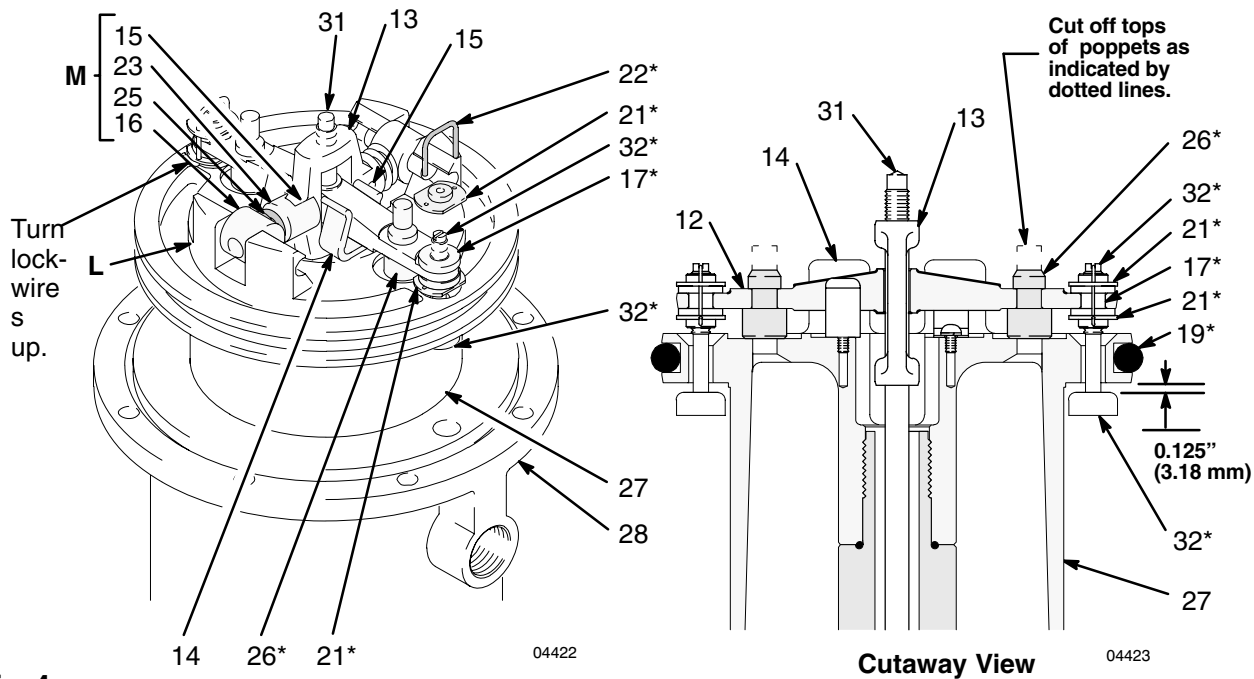

Fig. 4
10. Pull the piston assembly from the air motor base (28), and set it aside.
11. Remove the vee block seal (10†) with a pick, and clean the groove in the air motor base (28). Remove any dirt in the groove, and wipe the groove clean with a cloth.
13. Use a screwdriver to push down on the trip rod yoke (13), and snap the toggles down. See Fig. 4.
14. *In this step, while you are prying with the screwdriver with one hand, cover the toggle assemblies with your other hand so as to catch the spring-loaded toggle assemblies when they snap out of the lugs.* Place the tip of a screwdriver into the piston between the piston lugs (L) below the pivot pins (16) on the toggles, pry up with the screwdriver handle to compress the springs on the toggle assembly (M) up and away from the piston lugs, and remove the parts. See Fig. 4.
15. Straighten the lockwires (22\*) and remove them from the valve nuts (21\*). Screw the top nuts off. Remove the trip rod yoke (13), actuator (12), and trip rod (31). Unscrew the bottom nuts (21\*), and remove the poppets. Make sure the valve bar spring clips (14) are not worn or damaged and that they properly guide the actuator (12).
16. Remove the exhaust valve poppets (26) by cutting them with a side cutter, then pull them out of the actuator (12).
1. Place the piston rod (29) flats in the vice with the air motor up.
2. Pull the exhaust valve poppets (26\*) into the valve actuator (12), and clip off the top parts of the poppets (shown with dotted lines in the **Cutaway View** in Fig. 4).
3. Install the grommets (17\*) in the actuator (12), place the inlet valve poppets (32\*) in the piston, and thread the bottom valve nuts (21\*) onto the inlet valve poppets until there are a few threads left before the threads run out.
4. Grease heavily and place the trip rod (31) in the piston, place the actuator (12) in the yoke (13), and place the well-greased actuator/yoke assembly in the piston, with the trip rod going through the center holes of the actuator and yoke and the inlet valve poppets (32\*) going through the grommets (17\*).
6. Install the toggle pins (15) in the yoke (13), place the toggle arm (23) ends of the toggle assembly (M) onto the toggle pins, and snap the pivot pin (16) ends of the toggle assembly into the lugs (L).
7. Measuring with the gauge (Part No.171818), create 0.125 in. (3.18 mm) of clearance between the inlet valve poppets (32\*) and the piston seat when the inlet valve is open. See the **Cutaway View** Fig. 4.